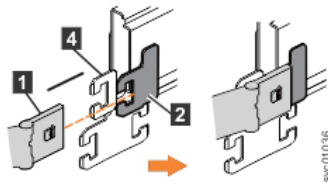

Figure 74. Install the inner connector of the upper CMA to the inner member of the support rail
2. Install the inner connector of the upper CMA assembly (1) to the inner member of the left support rail (2), as shown in Figure 74 on page 65.